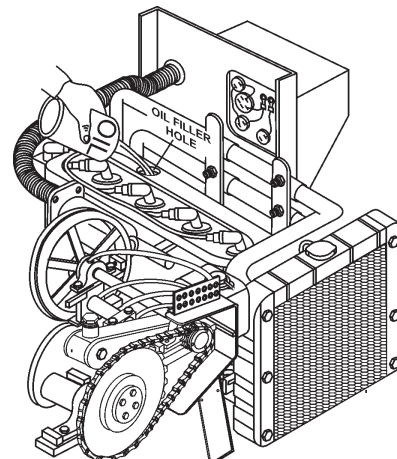

Figure 15. Engine Oil Filler Hole
4. If the engine oil level is low, add oil through the engine oil filler hole (Figure 15) with the recommended oil type (Table 3). Maximum oil capacity is 3.9 quarts (3.7 liters).